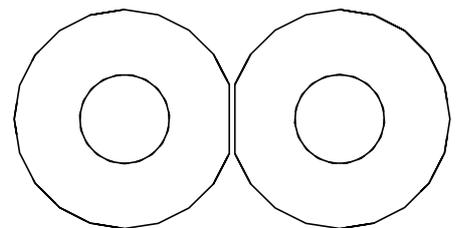

Fig. 12.19
- Install the bottom bearing housing (0111) and assemble the mechanical seals (P108) in the cavities ensuring the milled flat on each seal is towards the centre as shown in Fig. 12.19